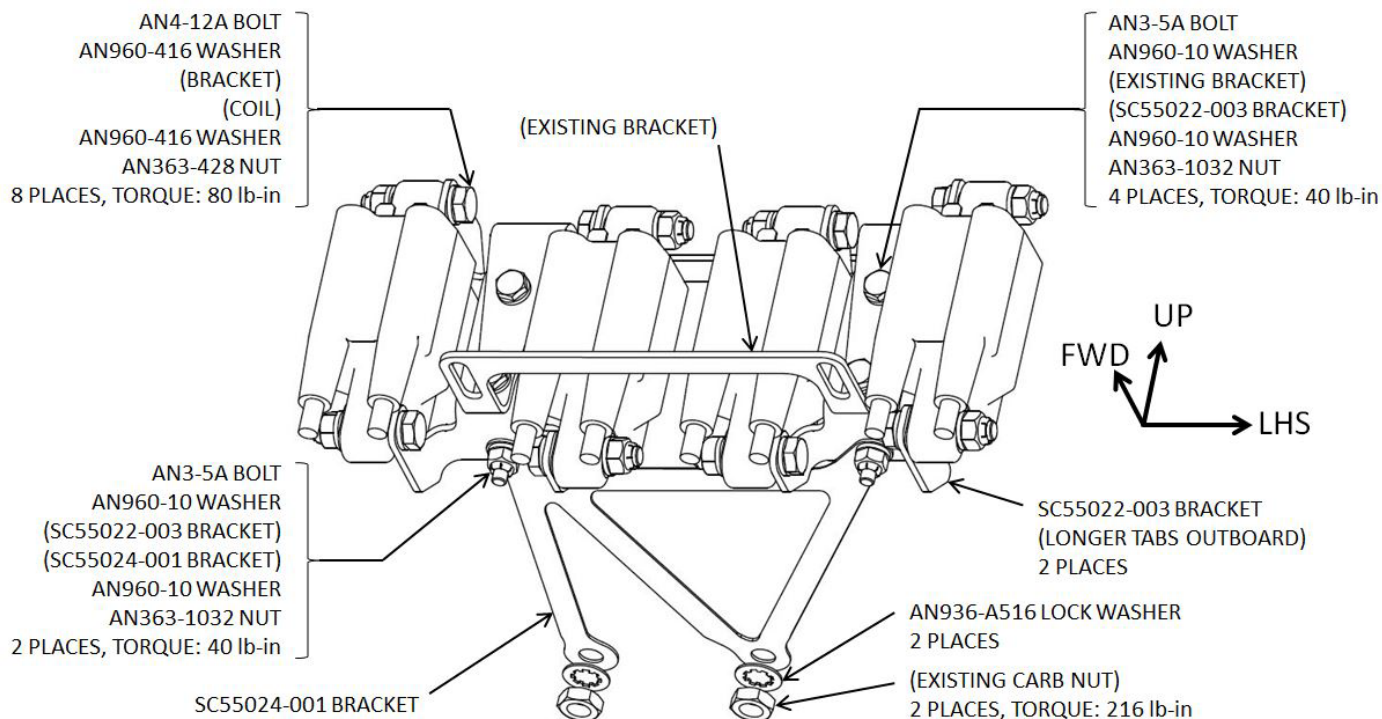

FIGURE 3 – COIL INSTALLATION
9. Install SC55022-003 brackets on each of the two vertical portions of the existing bracket as shown in Figure 3. Note that the longer coil mounting tabs on SC55022-003 brackets should be positioned outboard of the existing bracket. (This will position the outer two coils slightly forward of the center two coils).
10. Install the new style ignition coils on the SC55024-001 brackets as shown in Figure 3. Note that hardware is easiest to access if the center two coils are mounted on their respective brackets before mounting the brackets in Step 9. The outer two coils should be installed after the brackets are mounted.
11. Install the SC55024-001 stay bracket between the SC55022-003 brackets and the two forward carburetor mounting studs as shown in Figure 3. Use the two original carburetor nuts removed in step 7, each with a new AN936-A516 washer. Apply torque stripe after torquing.